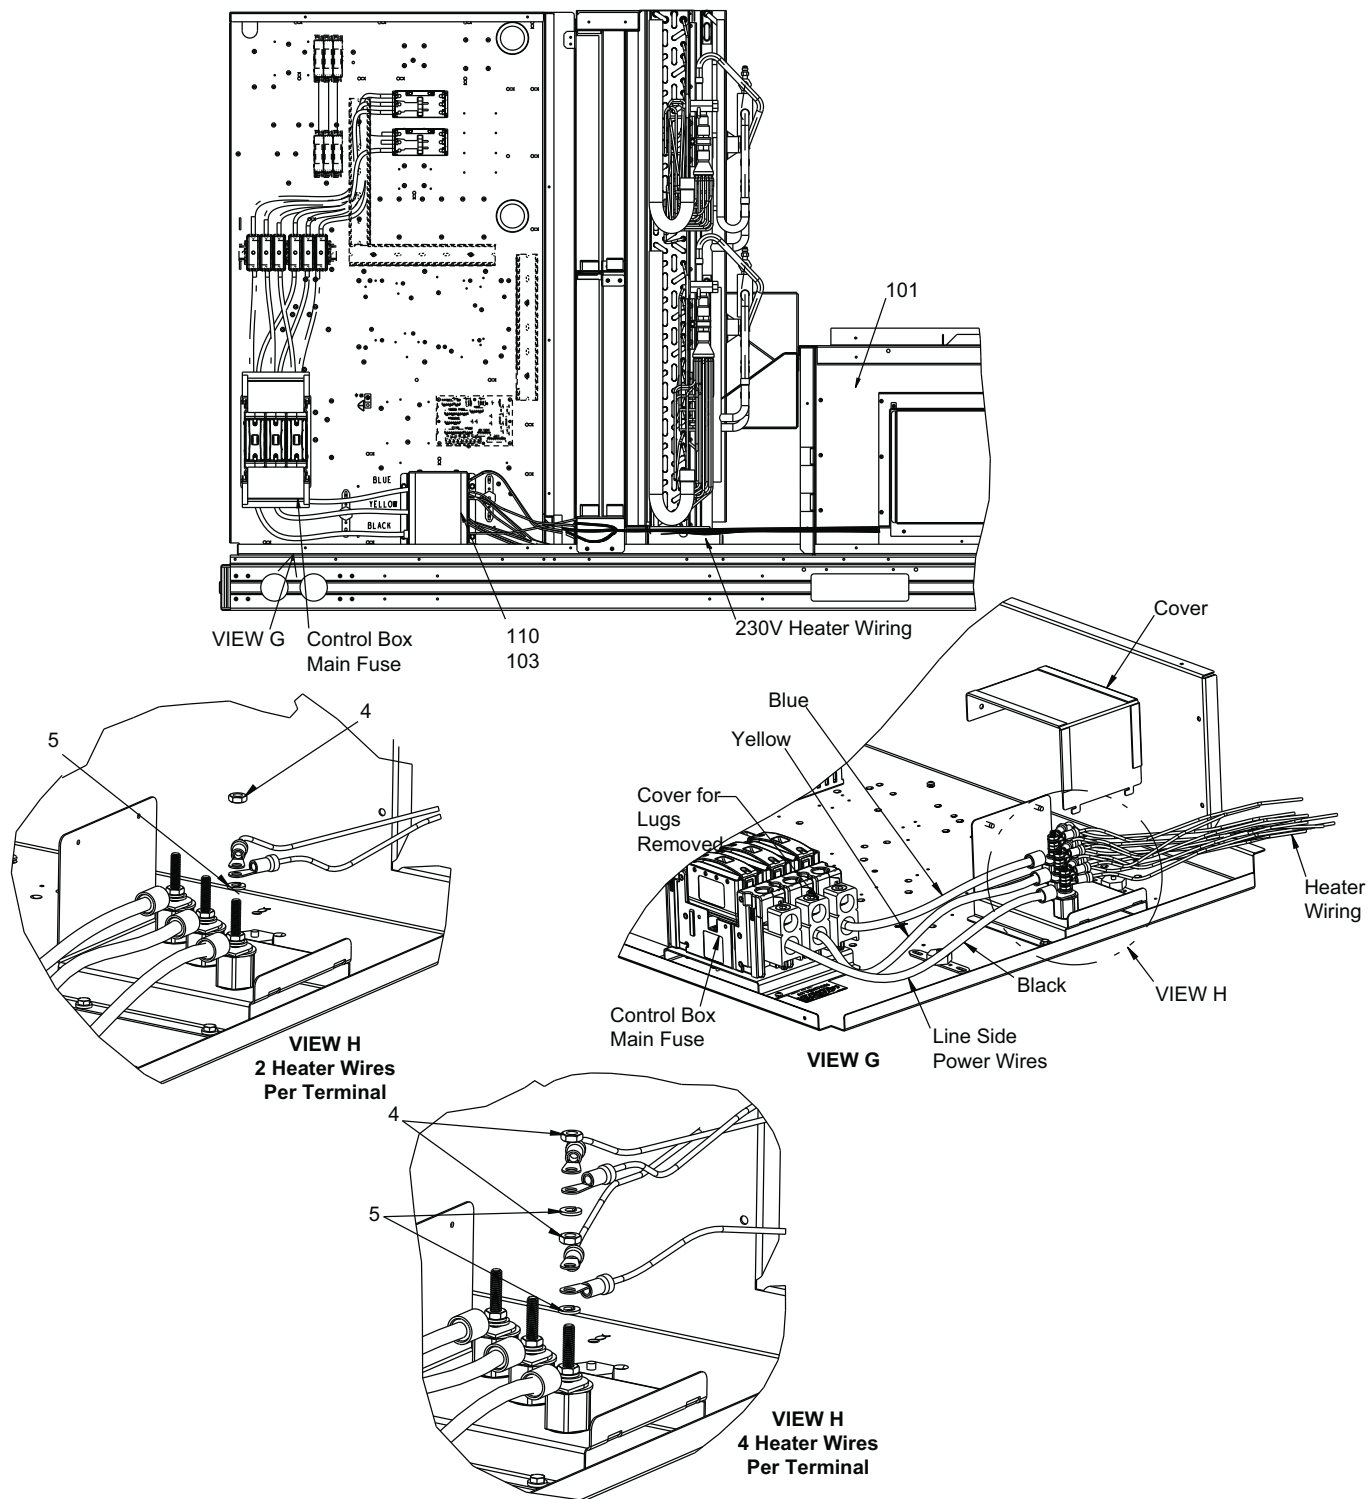

Fig. 45 — 230V Single Point Power Assembly Location (High SCCR)
1. Install terminal block assembly in location shown in Fig. 45.
For 4 wire/leg assembly: add lock washers (Item 5), turn bottom two wires so barrel of terminal is down as shown in Fig. 45. Add nut (Item 4) and tighten to 9-10 Nm (79-88 in.-lb). Add second lock washer (Item 5), the top